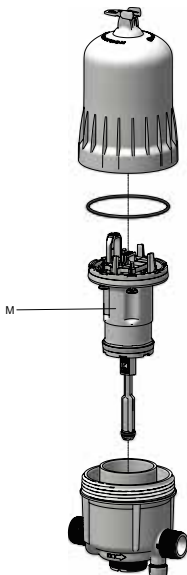

Fig. 27
- Unscrew the cover manually (**Fig. 27**) and remove it.